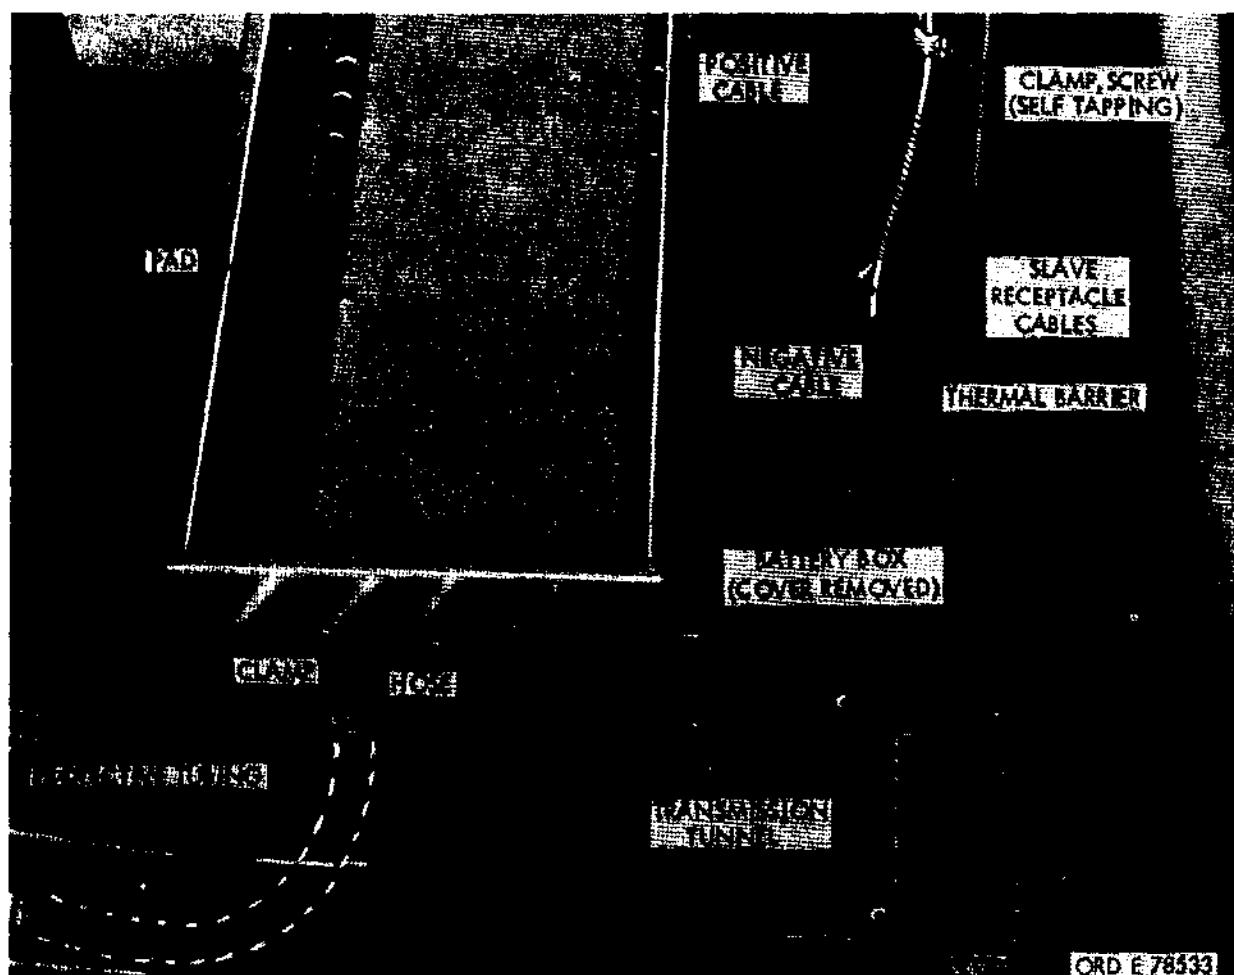

Figure 707. Location of hose and tubing in transmission tunnel.
- (7) Remove thirteen screws securing mid-portion of transmission tunnel (fig. 707).
- (8) Place 52 in. long protective tubing 7986768 around 54 in. long hose 8376141 and thread hose and tube from cock under turbocharger (installed in (3) above) and up into transmission tunnel along right side of transfer lever. Run hose through knock-out.
Note If vehicle has power-take-off lever tubing will run between levers (fig. 707).
- (h) Pass end of 54 in. long hose 8376141 through grommets in transmission tunnel and attach to battery pad inlet tube with clamp MS 96906-35842-2 (fig. 707).
- (1) Remove four screws and nuts securing slave receptacle opening cover to the right rear corner post of cab.
- (2) Insert cables of slave receptacle assembly through hole in cab floor adjacent to right hand door (fig. 707), and secure receptacle to cab, using four $\frac{1}{4}$ -20x1 screws MS 96906-35291-8, washers 96906-35337-25 and nuts MS 96906-35690-405.
- (3) Route positive (long) receptacle cable through hole in floor (fig. 707) nearest the door, under the cab floor and up through center hole in forward edge of battery box, making certain grommet MS 35489-23 is first installed.